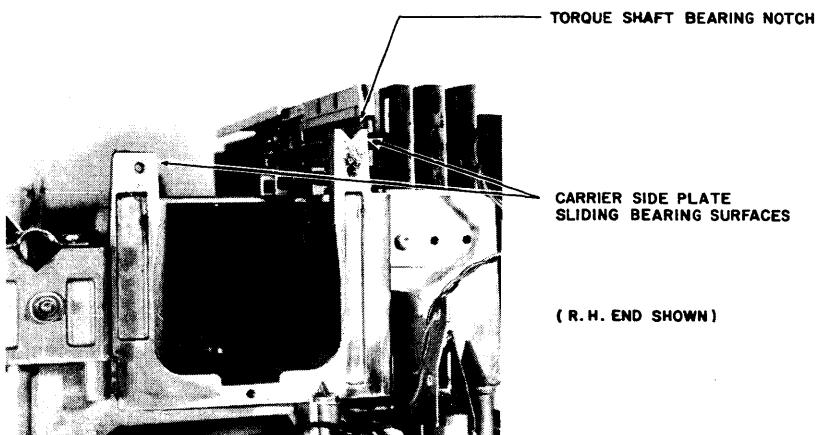

Figure 5-10 CARRIER SYSTEM REPLACEMENT
- Clean all Carrier Subassembly bearing surfaces on the printer's main frame of old grease, etc. Reapply a light coating of multi-purpose grease to these points on both ends of the printer's main frame. Refer to Figure 5-10.